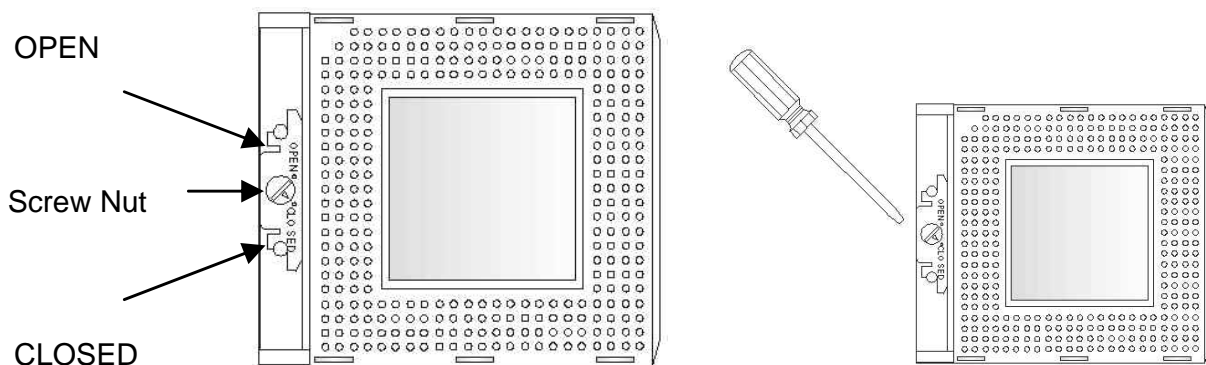

Figure 3: CPU Socket
1. Check and confirm that you are going to install correctly CPU type and pin numbers (figure 3).